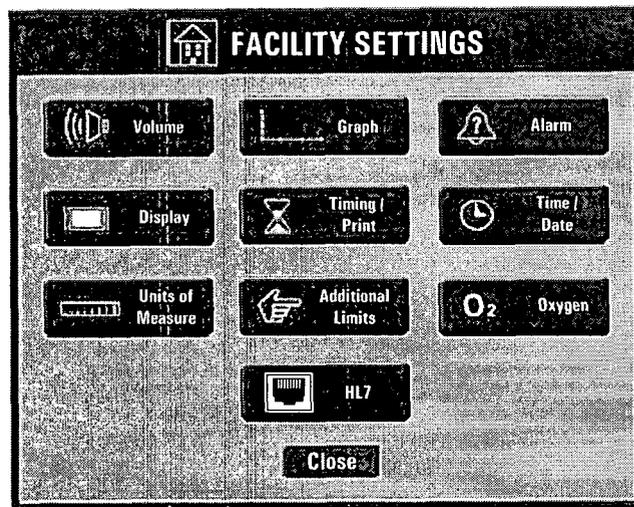

Figure 5-12 PRU Facility Settings Menu Screen
4. Enter the 4-digit access code (2468), then press **OK**. A Facility Settings menu screen, shown in Figure 5-12 on page 5-13, appears. This screen displays all the Facility Settings that you can change for the PRU.
The following screens appear when you select and press a button from the Facility Settings Menu screen (refer to Figure 5-12 on page 5-13):